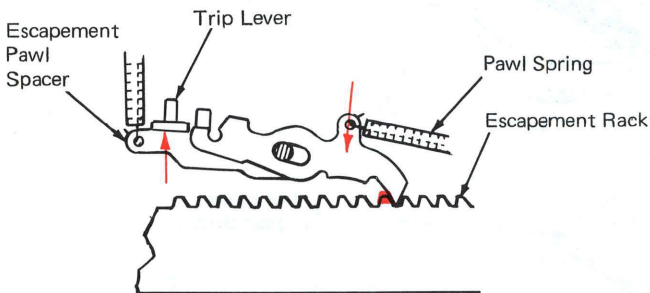

Figure 4 – Escapement Pulled To Right (Top View)
3. When the escapement pawl is pivoted out of the rack, it is pulled to the right on the elongated mounting hole and into the next tooth of the escapement rack by the pawl spring (Figure 4). The carriage, because of its weight, does not move until the pawl tip is safely positioned in the next rack tooth.